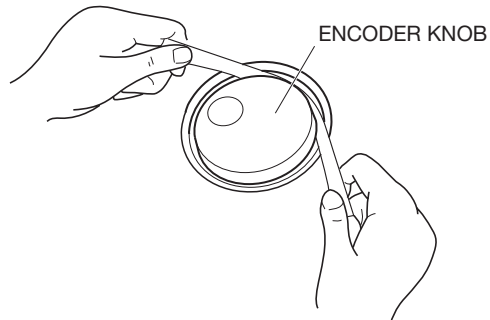

Fig.4
1. Remove the encoder knob from the control panel surface. (Fig.1 and Fig.4)